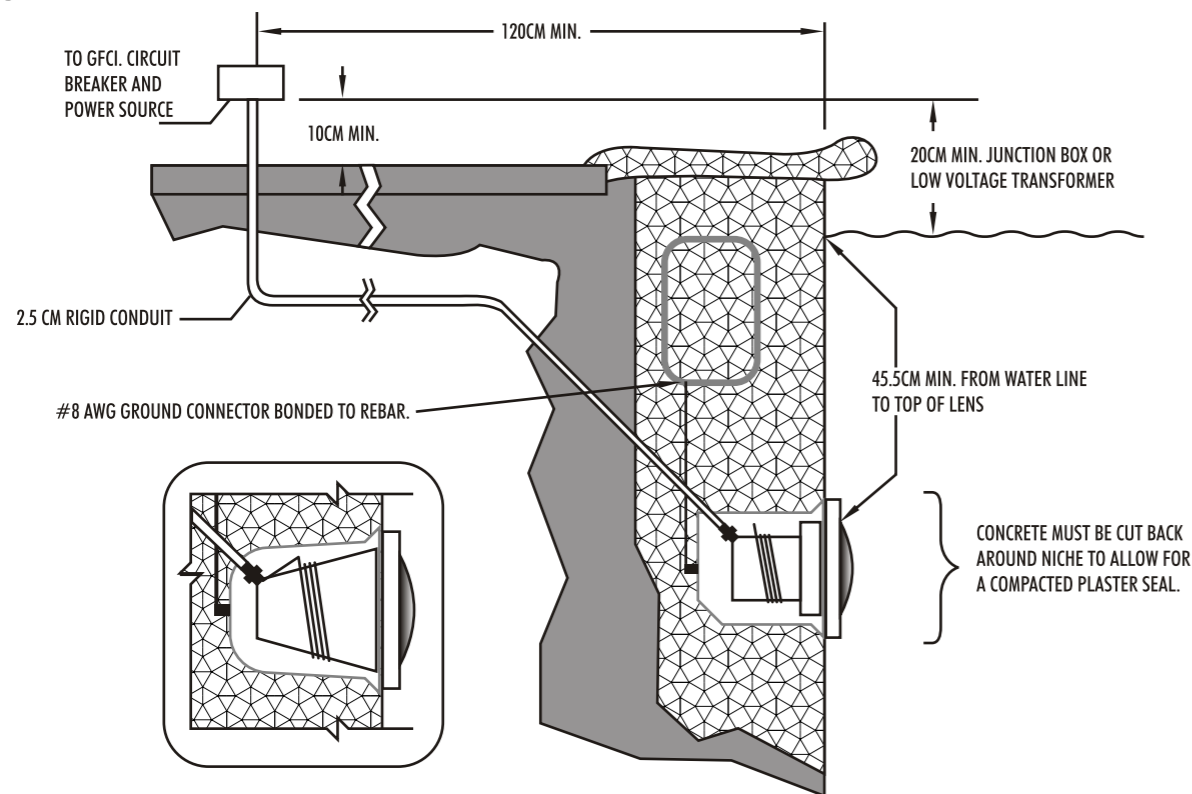

Figure 1.
A. The electrician must complete preparatory steps before light fixture is installed; see Figure 1.
- b. The Junction Box (or, for 12 volt models, the low voltage transformer) must be located at least 20CM above water level, at least 10CM above ground level, and at least 120CM from the edge of the pool; see Figure 1.
- d. The wet niche must be properly installed so that the top edge of the underwater light's lens is at least 45.5 below the surface of the water in the pool; see Figure 1.
- e. The wet niche must be properly electrically bonded and grounded via the No.8 AWG ground connector located at the rear of the niche; see Figure 1.
1. Feed cord through conduit to Junction Box, leaving at least 120CM of cord at the light fixture to coil around the light; see Figure 1. This 120CM of cord around the light allows the light to be serviced after the pool is filled with water.
3. Strip 15CM of the outer cord jacket to expose the three insulated wires. Be careful not to damage the insulation on the three (3) inner wires.
4. Connect all three (3) wires to the corresponding circuit wires in the Junction Box, and secure the Junction Box cover in place.